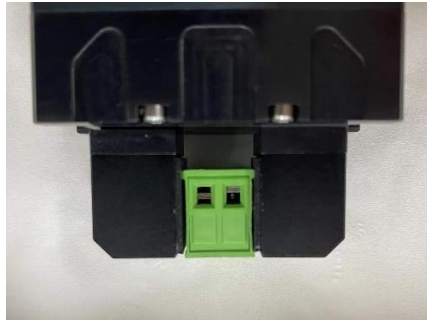

Figure 2.6 Example of error initialization
1. The initialization process of the 1.0xA5 instruction is looking for the maximum and minimum positions. If the maximum or minimum position is blocked during this process, the wrong stroke will be recognized, for example, the 0 position in Figure 2.6 will be recognized as the width of the clamped object.